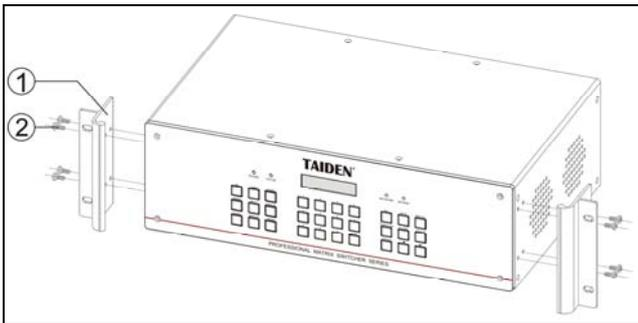

Figure 1.3 Installation
A couple of mounting brackets ① are attached to the product package. First release the screws ② from the lateral sides of the matrix. Bolt on the brackets to the housing by using the screws previously released. Now put the unit into the cabinet, and fix it by screws. As figure 1.3.